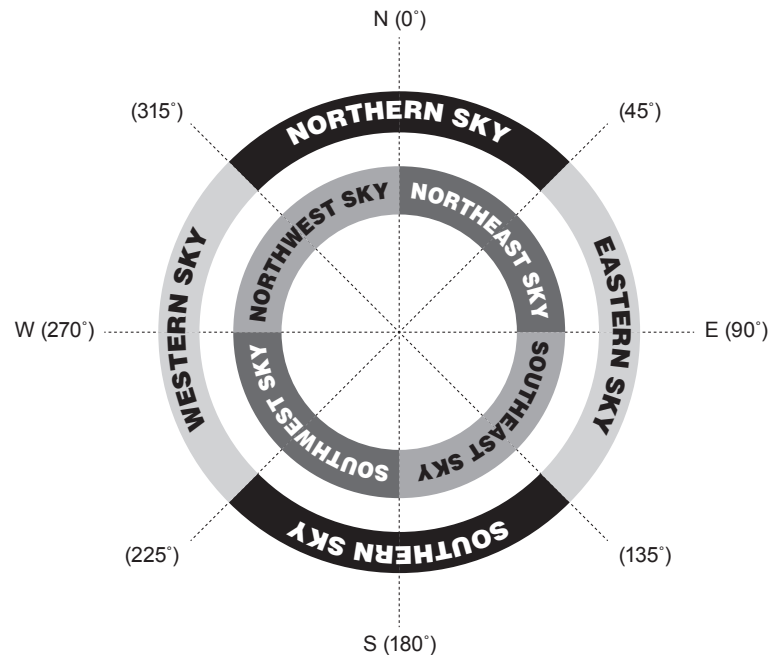

Fig. 3.4a
2. The hand controller displays "**Select Region**". Use the scroll keys to pick one of the eight regions shown in Fig 3.4a, which matches the horizontal region of the brightest star. Press **ENTER** to confirm selection and proceed to the next step.